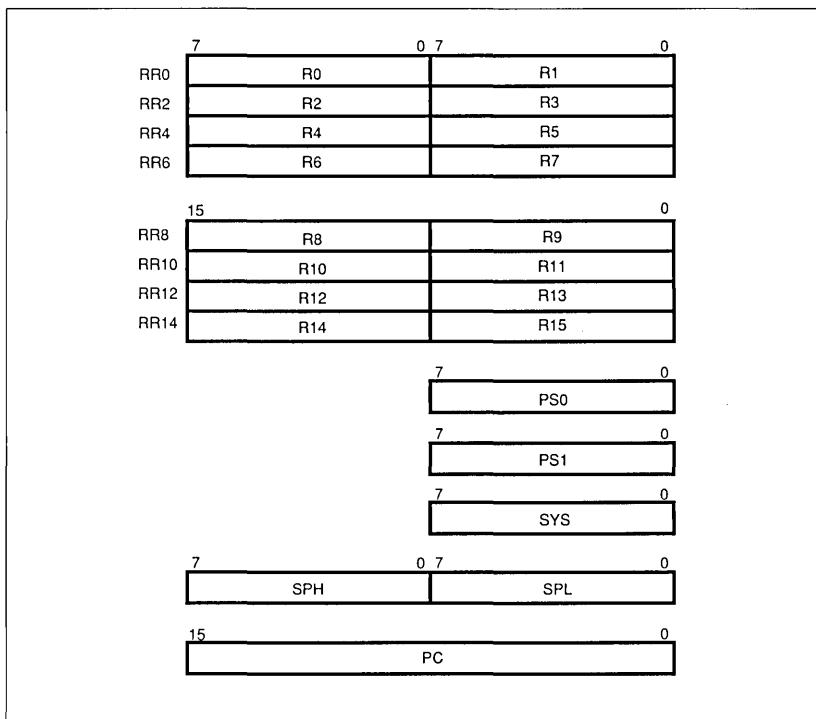

Fig. 1 Register lineup
Fig. 1 shows the SM85CPU register lineup. The CPU internal register consists of eight 8-bit general purpose registers (R0-R7), four 16bit general purpose registers (RR0-RR14), a program counter (PC) and four other control registers. (The R0-R7 can be also used as four 16-bit general purpose registers (RR8-RR14).)